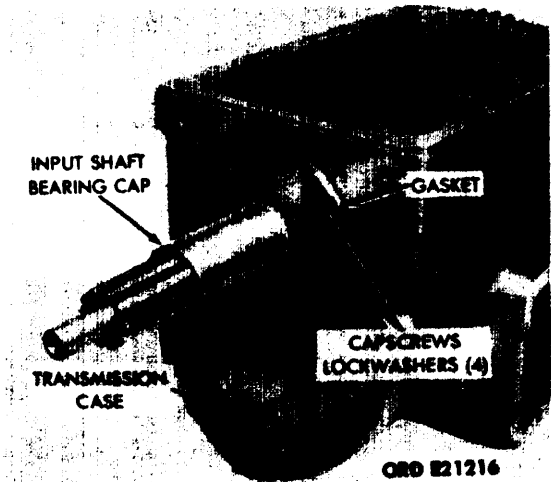

Figure 3-25. Removal of Input Shaft Bearing Cap.
g. *Input Shaft Bearing Cap.* Remove the four capscrews and lockwashers securing the input shaft bearing cap to the transmission case. (See fig. 3-25.) Remove the input shaft bearing cap, spacer, and